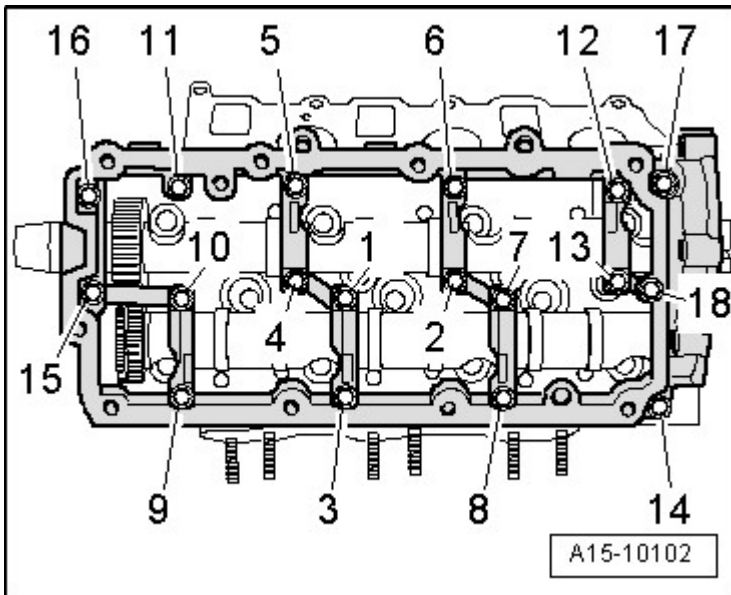
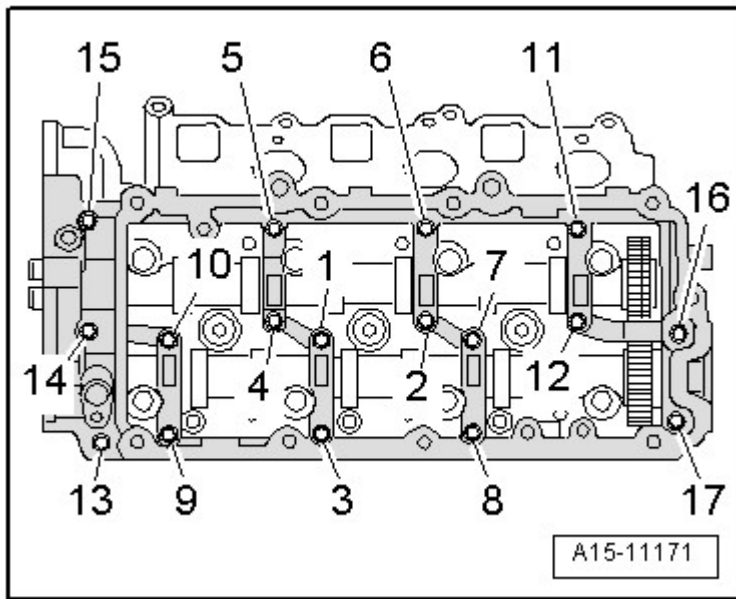

Fig. 18: Identifying Left Cylinder Head Guide Frame, Tightening Specifications and Sequence
Fig. 19: Identifying Right Cylinder Head Guide Frame, Tightening Specifications and Sequence
- Tightening specifications and sequence, refer to **Fig. 18, Fig. 19**